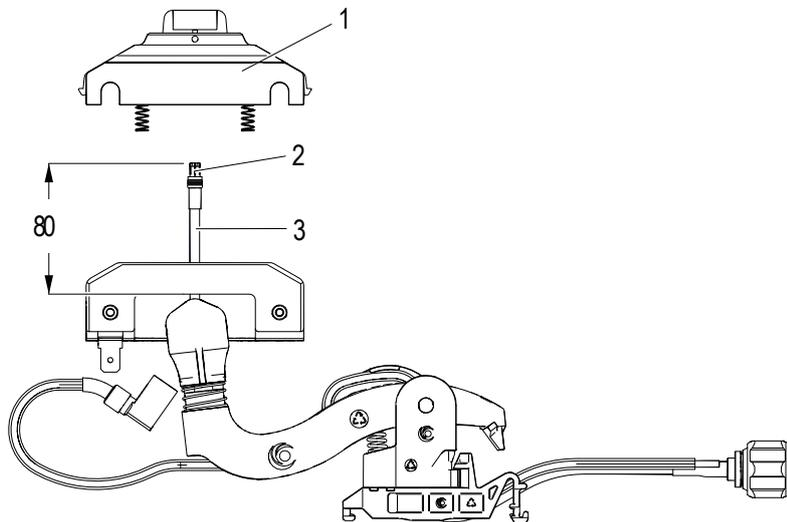

Fig. 174: Disconnect collector housing (1) from data cable (HF cable) (3)
→ Disconnect the collector head (1) from the connector (2) of the data cable (HF cable) (3). The data cable (HF cable) must protrude approx. 80 mm from the joint (see Fig. 174).